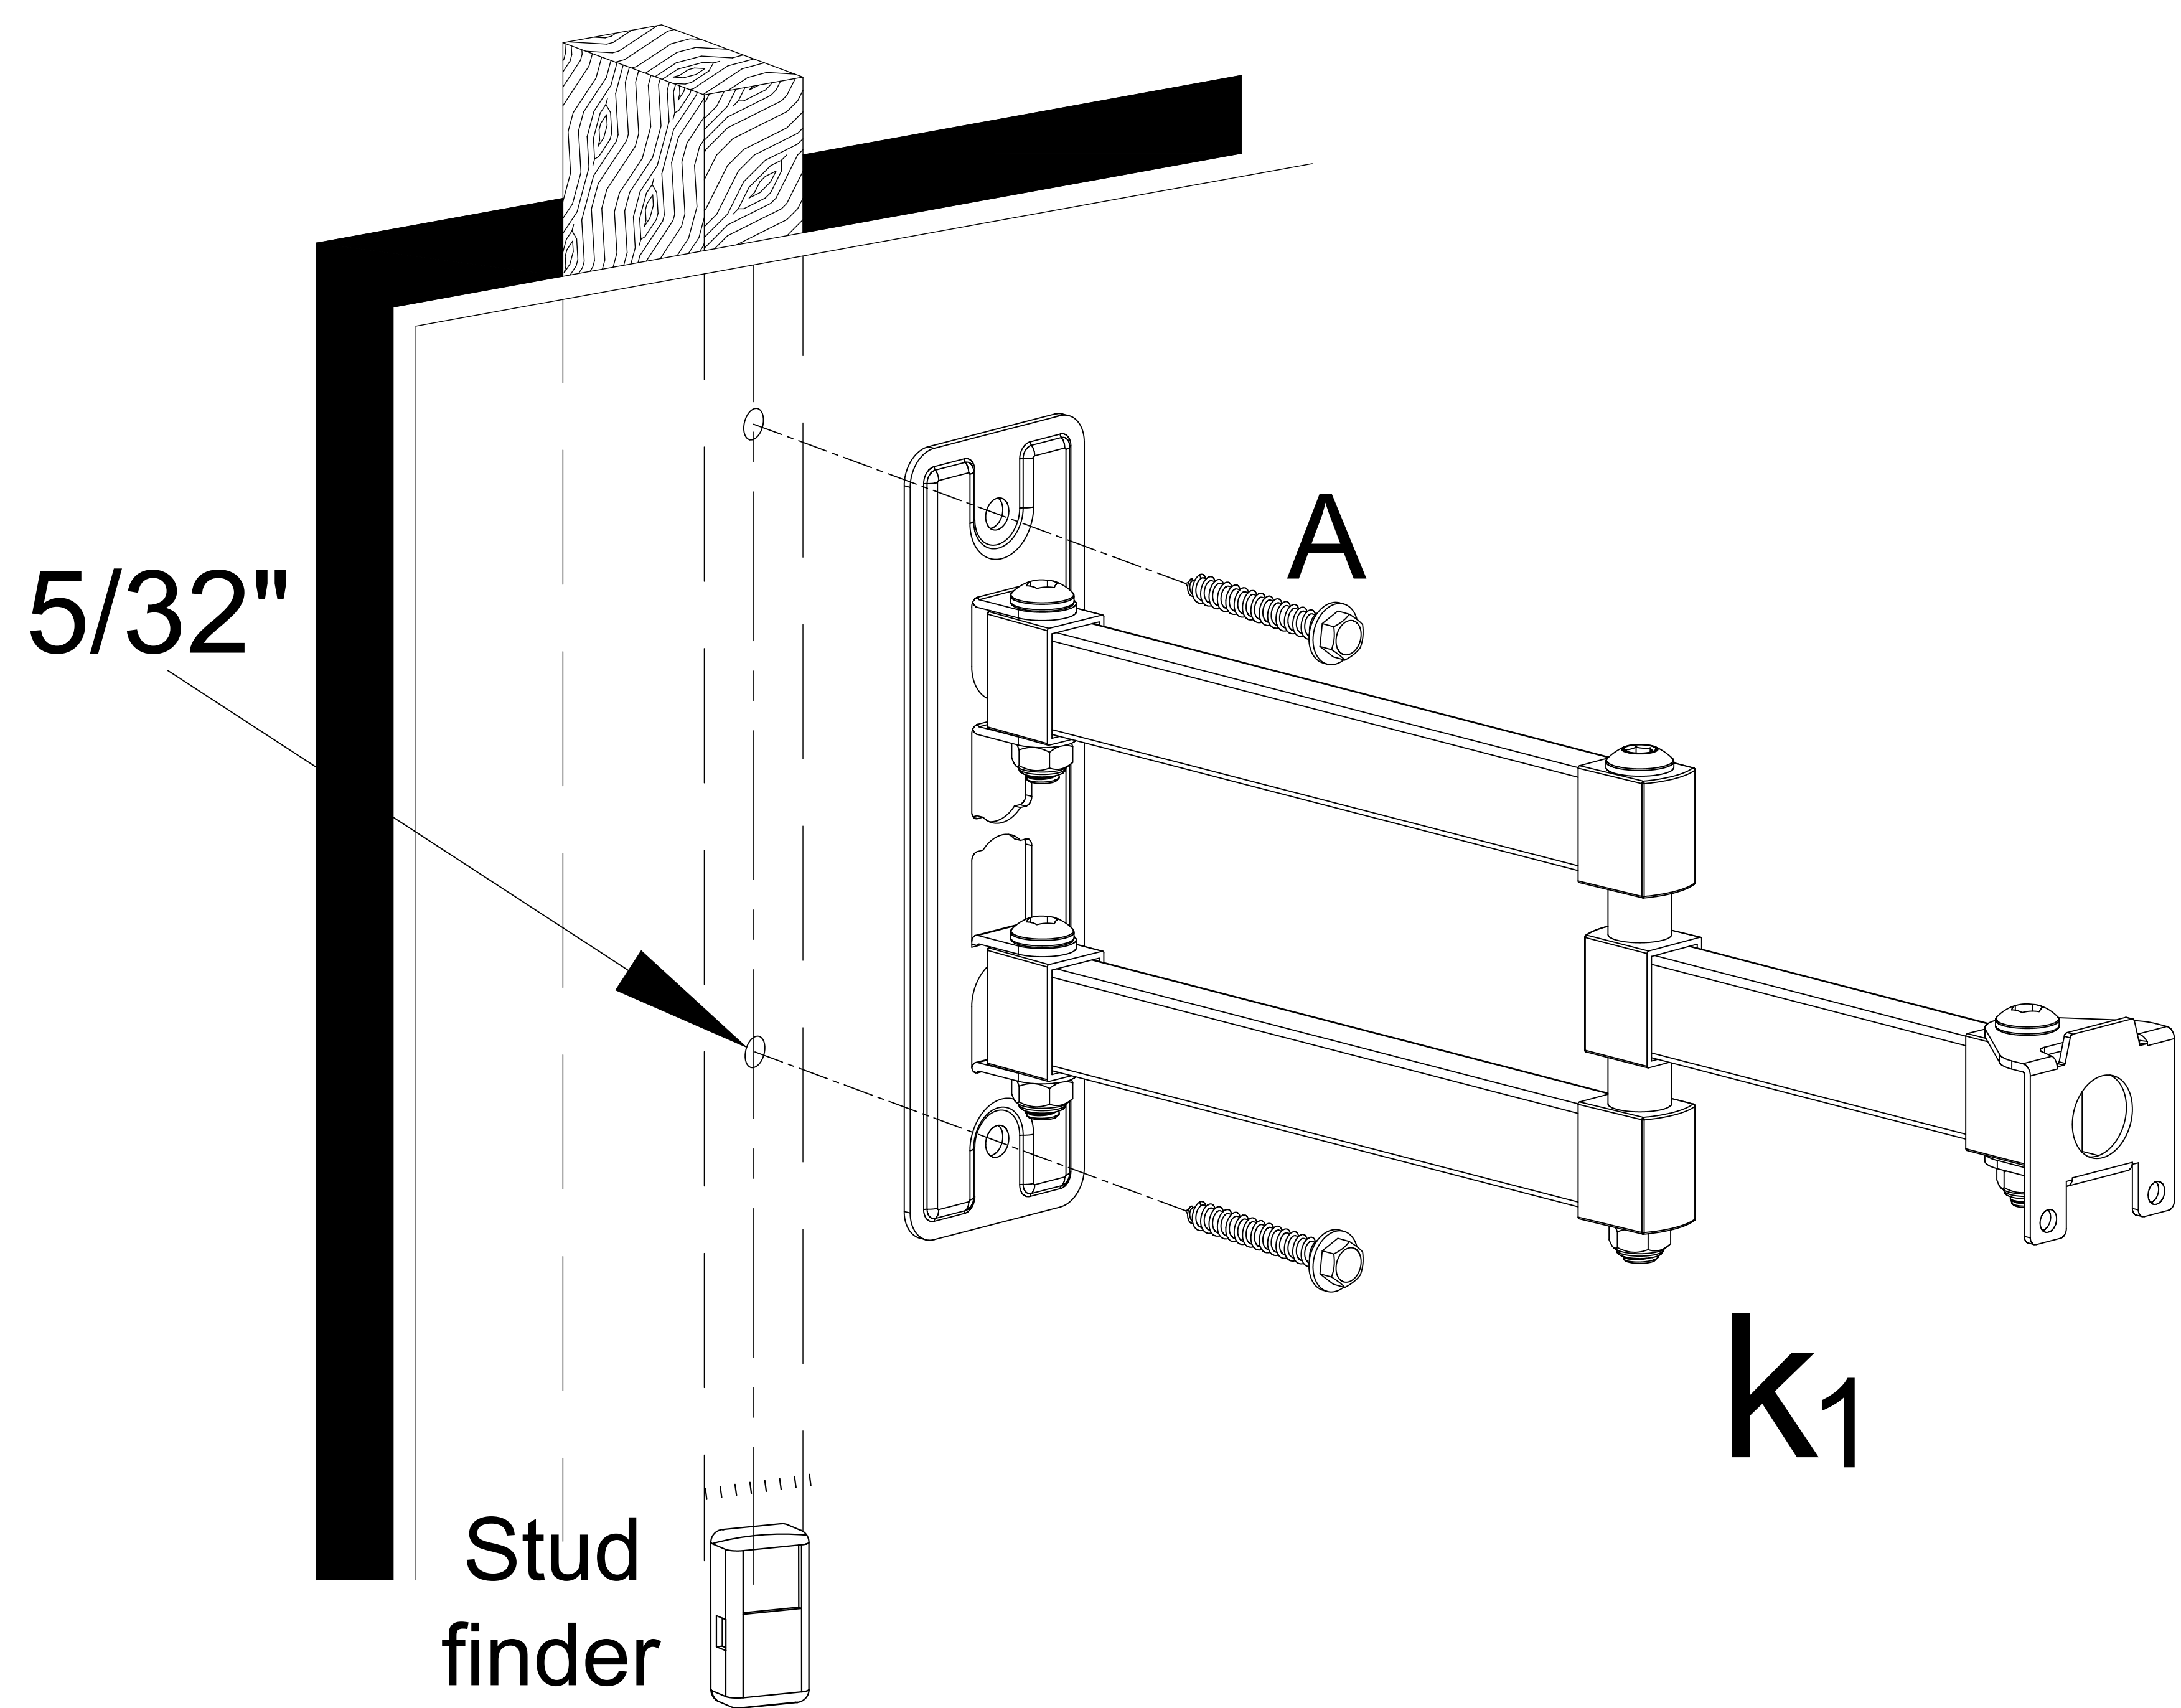

Figure 3 (keep the wall plate level)
If you mount TV mount into wood studs ,pre-drill the mark 2 holes using 5/32" drill bit to a depth of 2.36", fix wall plate(K1) to the wall with screws (A). (Figure 3)